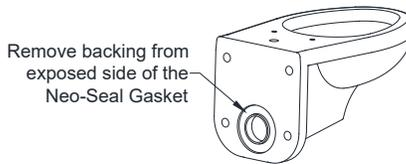

Figure 14
16. Peel off removable backing liner from the opposite side of the gasket and hang the water closet onto the threaded rods. Ensure Neo-Seal Gasket seals to the coupling. See Figure 14.